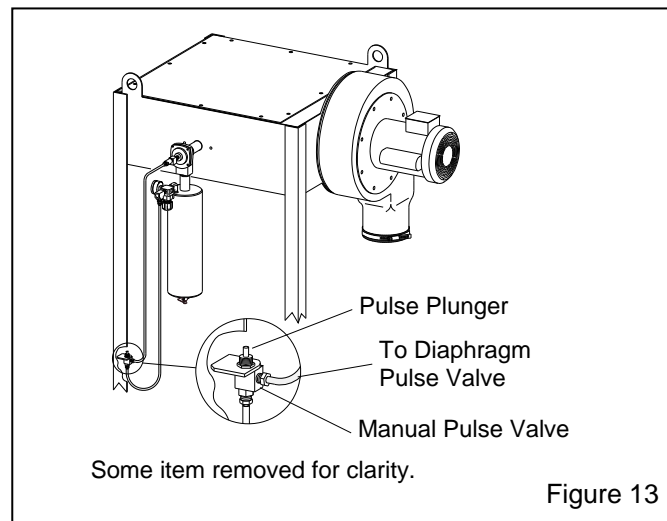

Figure 13
**3.1.2** Turn pulse pressure to 20 psi (refer to Section 5.1 to adjust pressure), then refer to Figure 13 and press and release the manual pulse-valve plunger; (press and release foot pedal with foot-pedal pulse option) the collector should pulse every time the plunger is momentarily pressed. **NOTE: Do not hold the plunger in;** holding the plunger in for more than a moment will **not** increase cleaning efficiency. Prolonged pressure on the plunger could cause dust leaks and needlessly consume compressed air.
**3.3.1** The filter cartridge pulses each time the manual pulse-valve plunger is pressed; refer to Figure 13. With the exhauster running, quickly press and release the plunger on the pulse valve. Several pulses may be needed to clean the cartridge; wait about 5 seconds between pulses. Rapid repetitive pulsing may cause dust leakage.